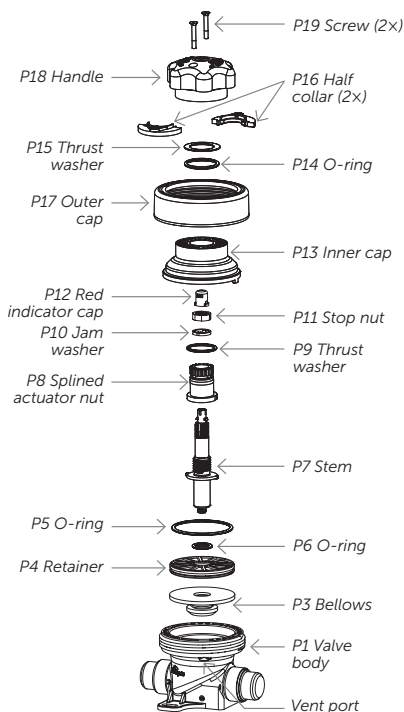

Figure 1.
1. To become familiar with the components in the valve assembly, refer to Figure 1.